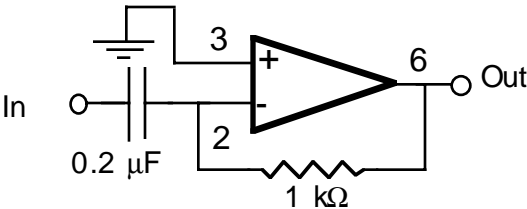

Figure 5
5) Differentiator (Fig. 5). This circuit differentiates the input voltage. Since the inverting input is at a virtual ground, the current flowing through the 1 k $\Omega$  resistor, and hence the output voltage, is proportional to the derivative of the voltage across the 0.2  $\mu$ F capacitor.